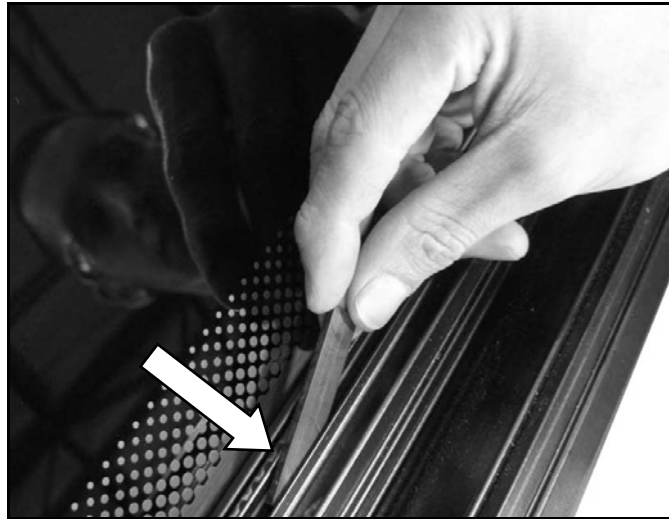

FIGURE 3-14. INSTALL WINDOW SPACERS
- 5) Refer to **Figures 3-14** and **3-15**. Insert window spacers on lower horizontal clip.